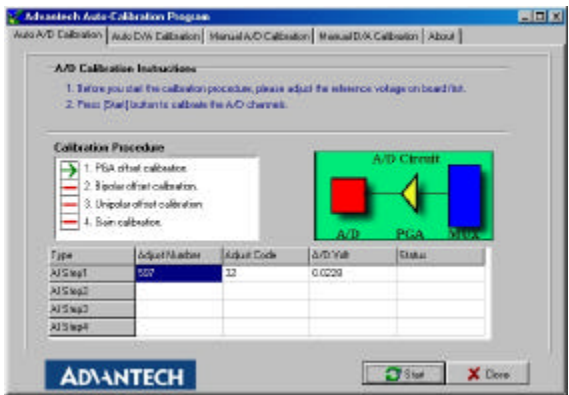

Fig. 5-7 A/D Calibration Procedure 1
Step 5: The first A/D calibration procedure is enabled (Fig. 5-7).